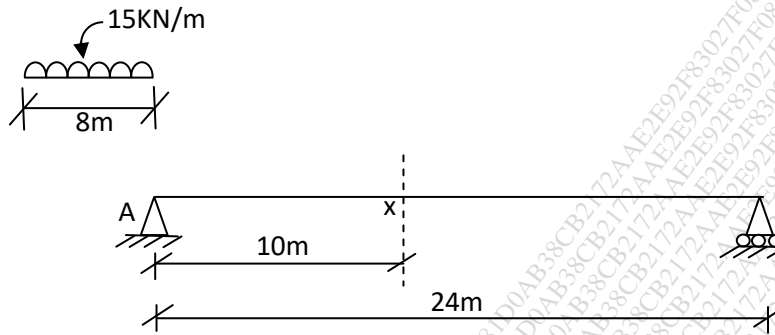

Figure 7
Q.8 The load system shown in figure 7 crosses a girder 24m span. Find the maximum shear force and 15 bending moment at a section 10m from the left support.